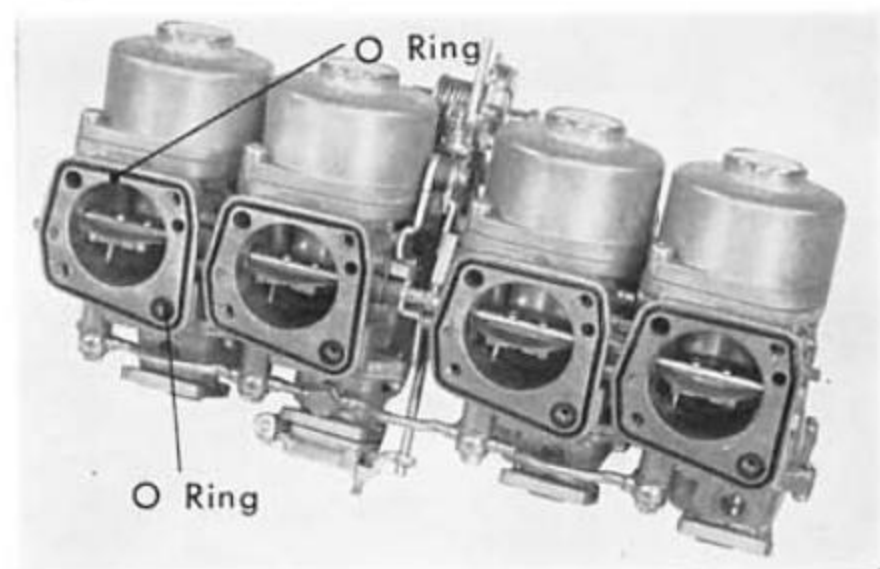

Fig. 2F-6
3. Cleans the jets with compressed air and install securely in their proper location; use care not to block the jets with air cleaner base gasket during installation (Fig. 2F-3).